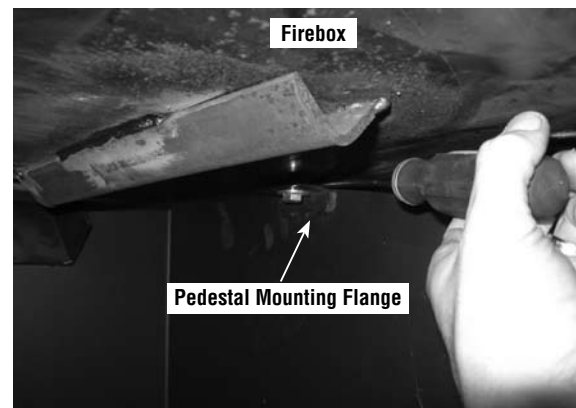

Figure 16
Step 2. Insert a large flat head screwdriver or pry bar into the small opening between the pedestal mounting flange and the bottom firebox of the stove. Use the large screwdriver or pry bar to increase the opening size between the firebox bottom and pedestal. **See Figure 16** - This increased opening between the pedestal and bottom firebox will be needed to insert the snap switch bracket mounting tabs.